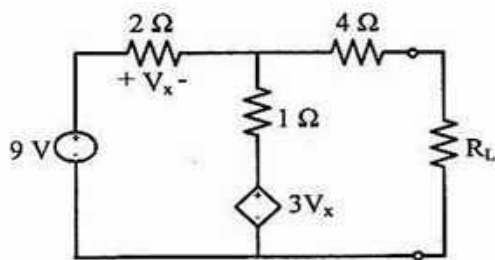

Fig.5(b)
- (b) Determine the value of  $R_L$  that will draw maximum power from the rest of circuit shown in Fig.5(b). Calculate the maximum power. [13]